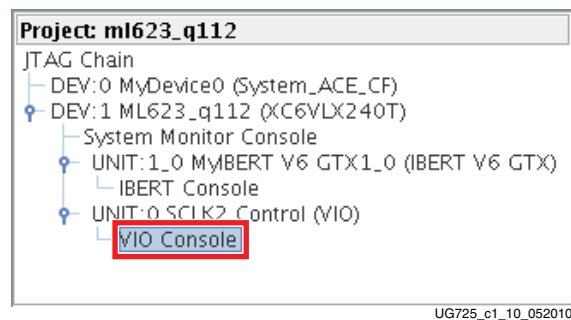

Figure 1-10: VIO Console Selection
- In the project panel, double-click **VIO Console** (Figure 1-10).